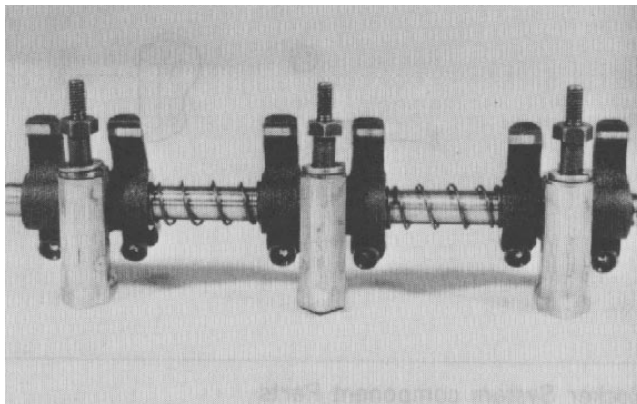

Figure 59
8. Loosen the rocker stay attaching bolts. Remove the rocker assembly (Fig. 59).